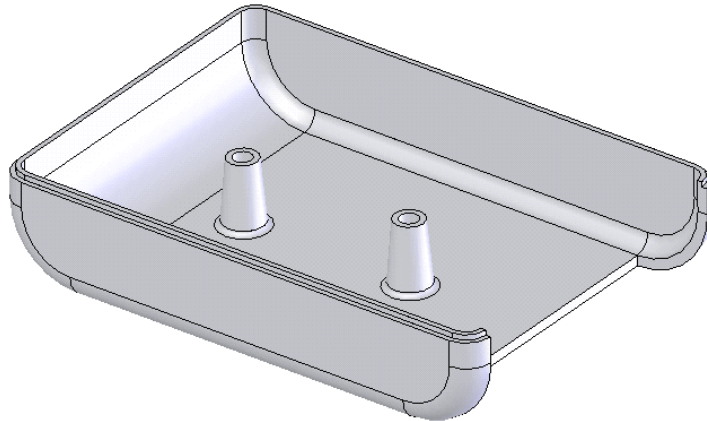
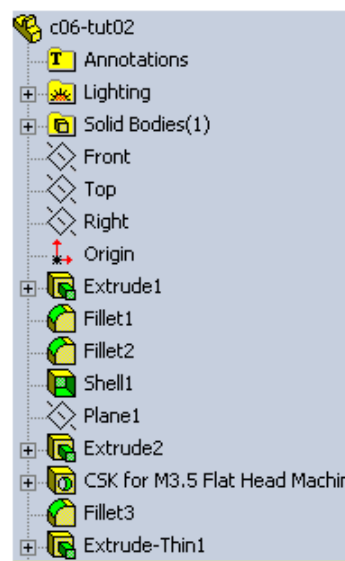

Figure 6-106 Final model rotated to display the maximum features
Figure 6-107 The FeatureManager Design Tree of the model
- Create the lip of the component by extruding the sketch, refer to Figure 6-106.
The rotated view of the final model is shown in Figure 6-106. The **FeatureManager Design Tree** of the model is shown in Figure 6-107.